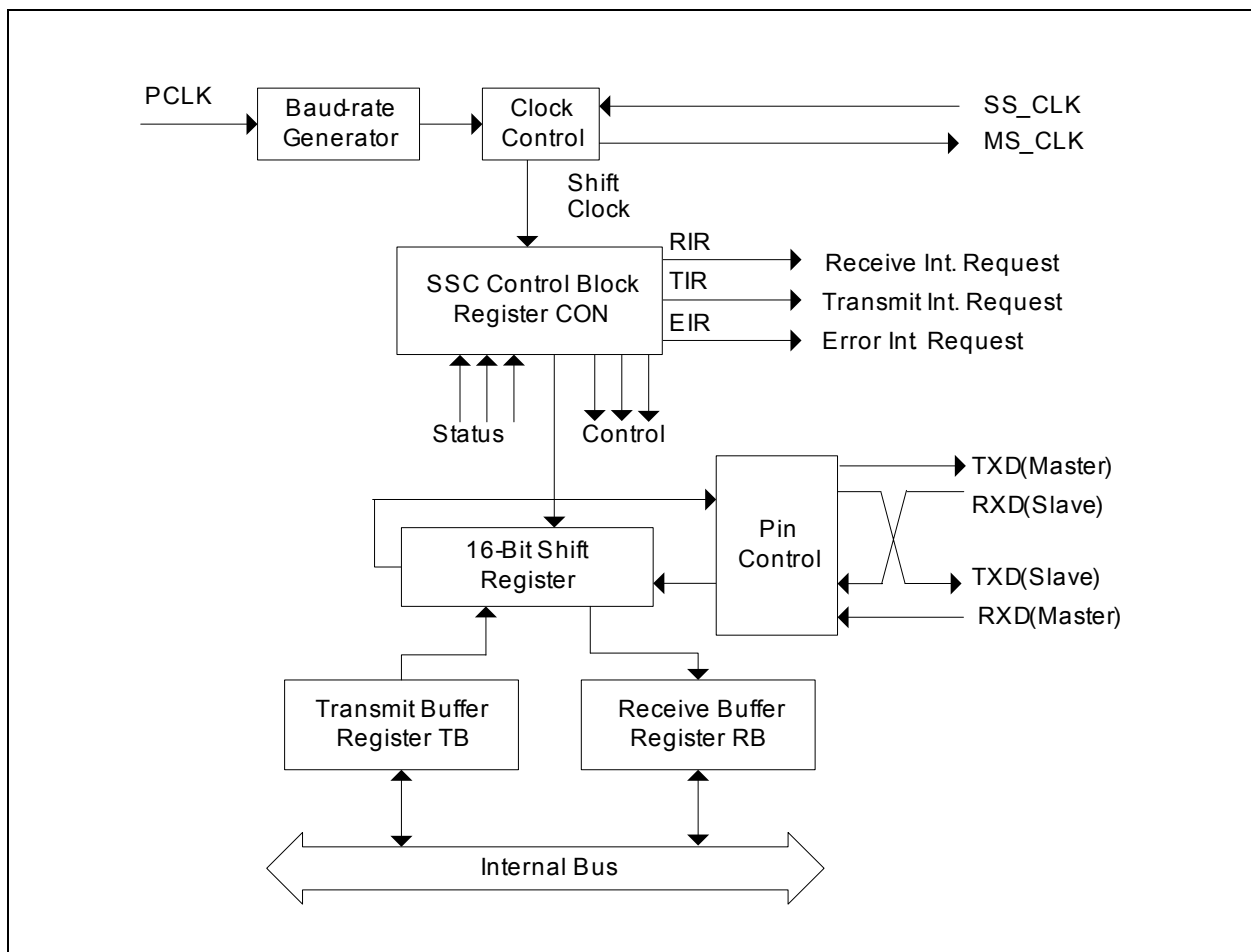

**Figure 32 SSC Block Diagram**
**Figure 32** shows the block diagram of the SSC.